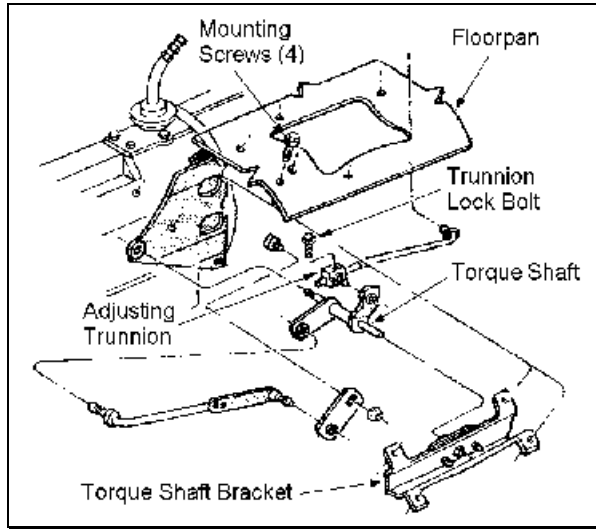

Figure 13
2. ≤ Remove the four screws that attach the torque shaft bracket to the floor pan. See figure 13.